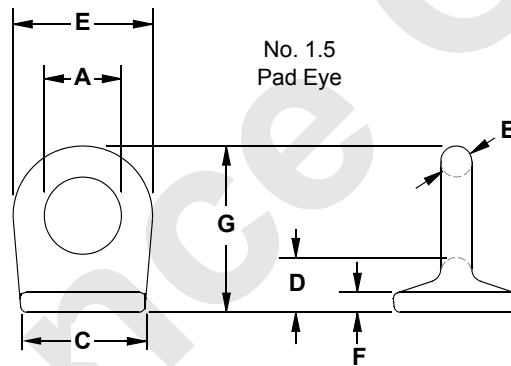

FIGURE 4-59
See Figure 4-59 for the following procedure.
- Any original dimension has changed (Figure 4-59)